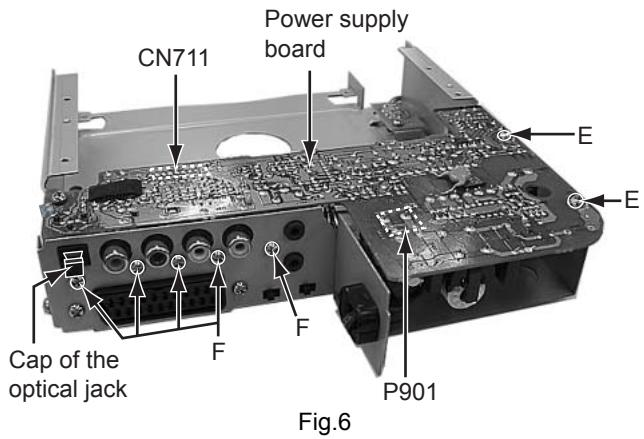

Fig.6
2.1.3 Removing the Power supply board (See Figure 6)